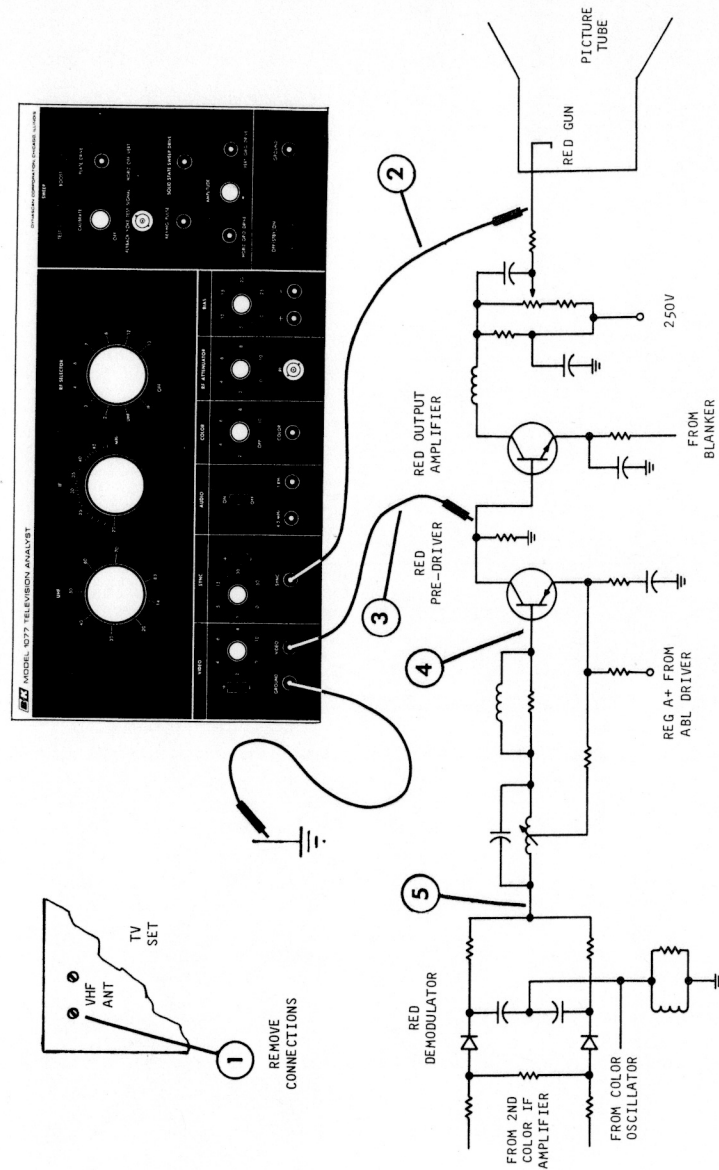

Figure 52. Red Demodulator and Amplifier Schematic Diagram
(See Figure 52)
- If the television receiver has a red pre-driver or equivalent stage such as shown in Figure 52, inject a VIDEO signal at the input to that stage.